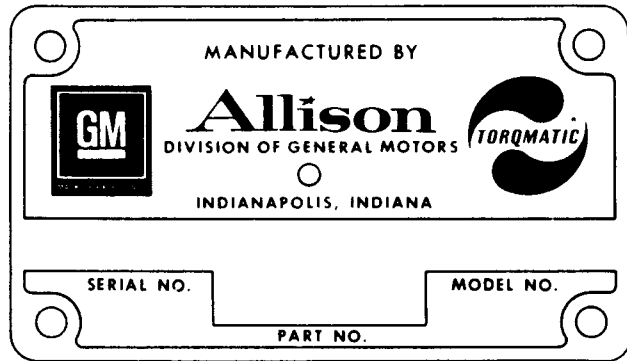

Fig. 1-9. Converter nameplate
a. Nameplate. The converter configuration is identified by letters and figures on the nameplate (fig. 1-9). These consist of a model number, a serial number, and a converter assembly part number, all of which appear on the nameplate. The serial number and the assembly part number indicate the specific converter and the options not covered in the model number.